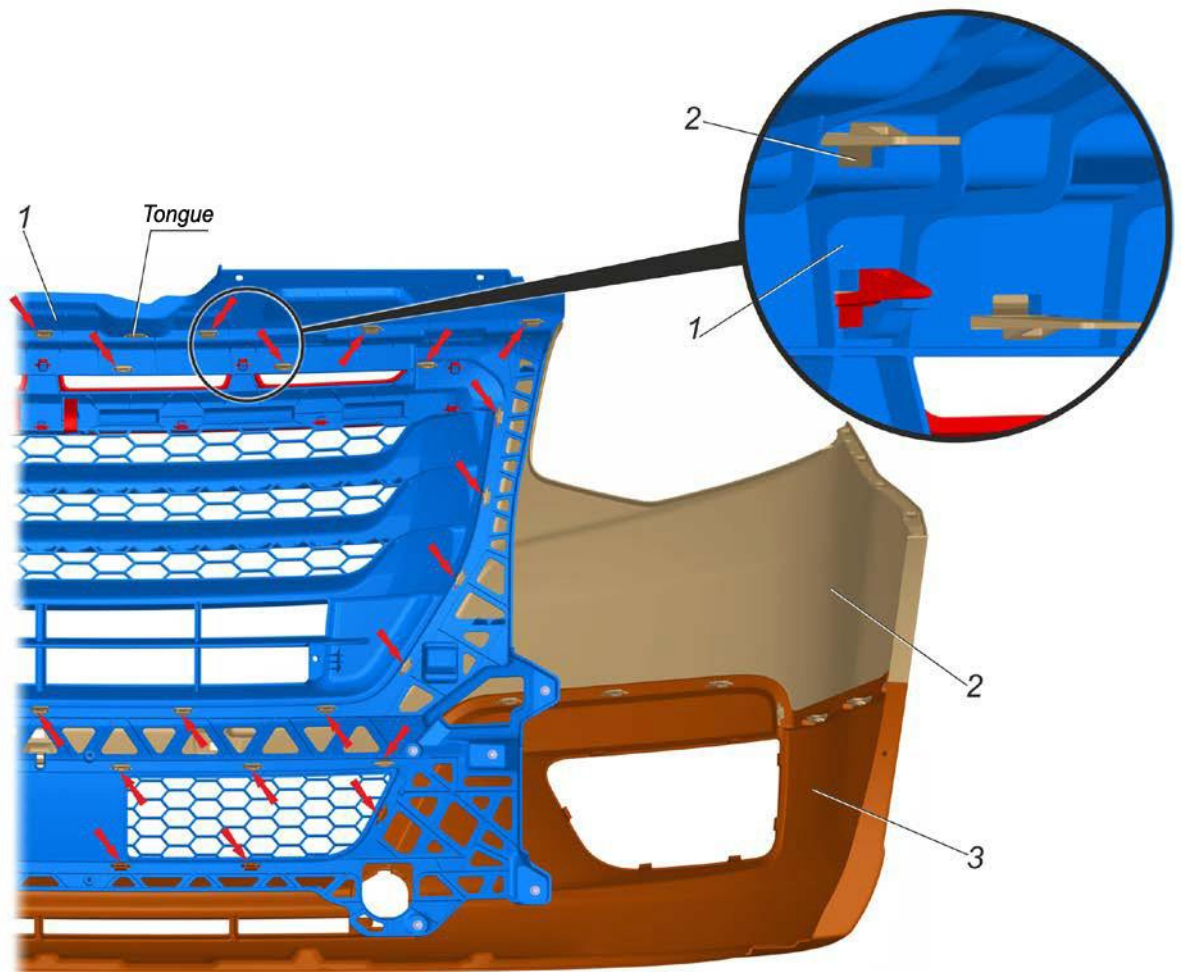

Fig. 8.13. Fasteners of front bumper panel parts: 1 – radiator grille; 2 – front bumper panel (upper); 3 – front bumper panel (lower)
- disengage the latches of the upper and lower panels of the front bumper and the panel tongue from the radiator grille and remove the radiator grille assembly with radiator grille molding. The fasteners of the front bumper panel parts are shown in Fig. 8.13;